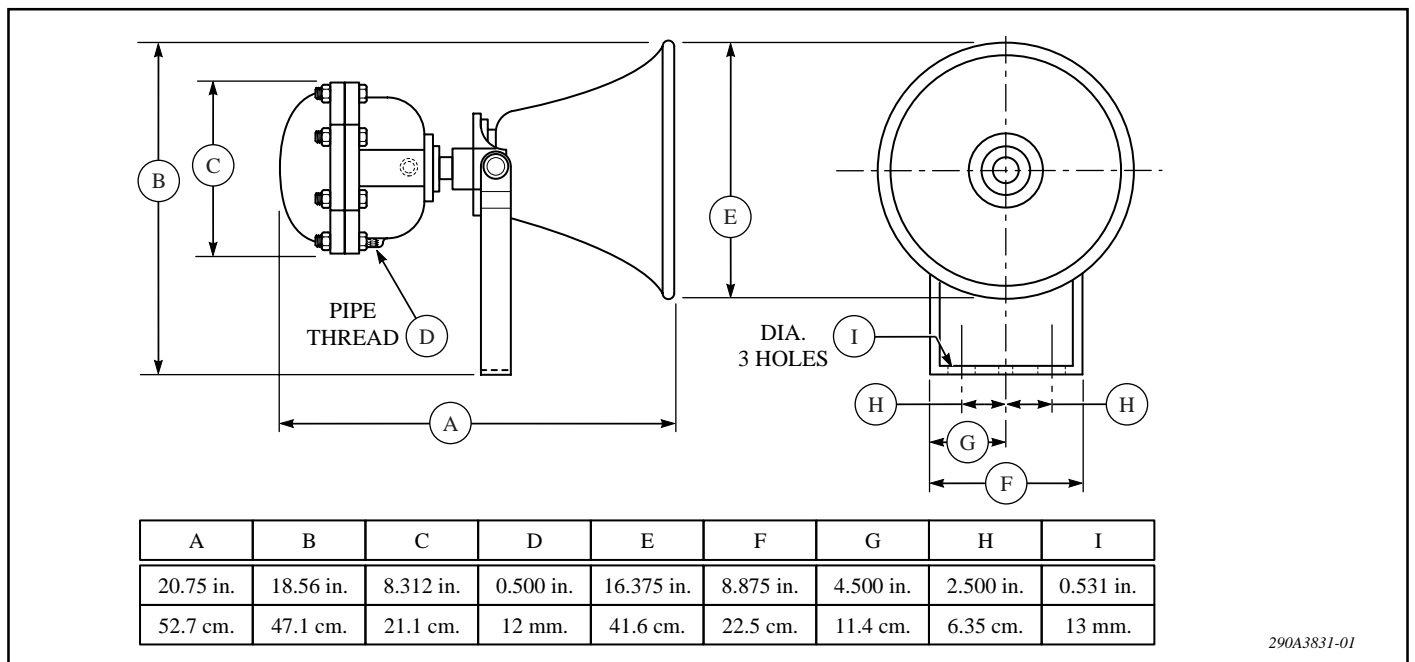

Figure 1. Model AM302X Speaker Dimensions.
The speaker can be mounted on any relatively flat surface. Conduit connection can be made to the 1/2" threaded opening at bottom of the housing (see figure 1).
- c. Using the mounting bracket as a template, scribe drill position marks on the mounting surface. See figure 1 for mounting hole locations and dimensions.